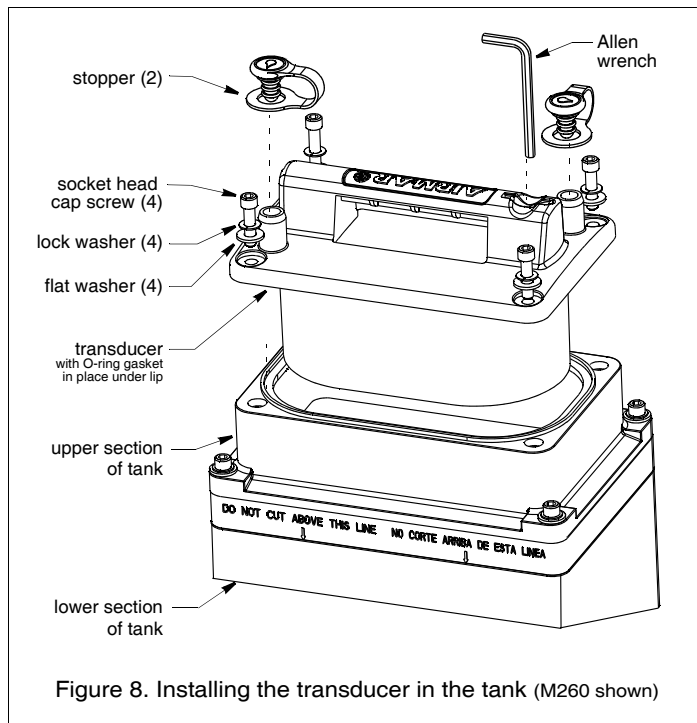

Figure 8. Installing the transducer in the tank (M260 shown)
4. Grasp the transducer by the handle and lower it into the tank (see Figure 8). There is no fore or aft to the transducer; it fits either way.